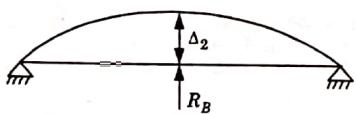

Fig. 8. Deflected shape of basic determinate beam due to redundant force  $R_B$ .
- vii. Upward deflection at B due to  $R_B$  (Fig. 8).